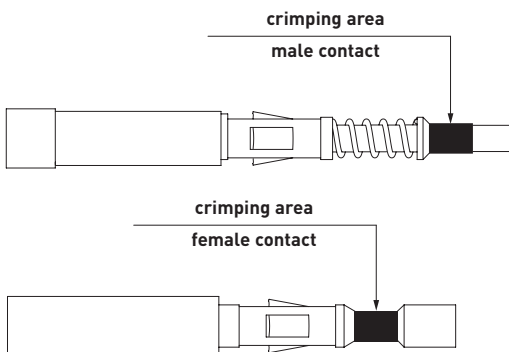

Fig. 4 - Crimping area
- The CLPZ R crimping tool data sheet explains how the crimping tool works and how to adjust the crimping depth and locator to crimp the contacts as shown in Fig. 4.